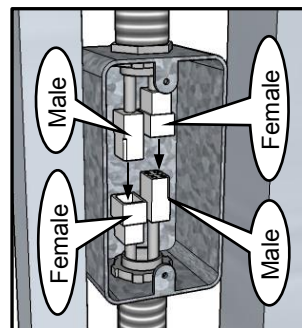
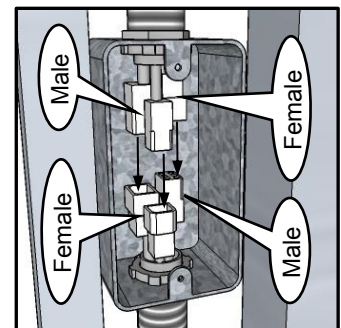

Figure 13
Figure 14
- On 3-stop dumbwaiters, the wires dropping down will have a male and female connector as will the junction box. Make sure the male and female from above plug into the male and female from below. (for 3-stops see Figure 13) (for 4-stops see Figure 14)